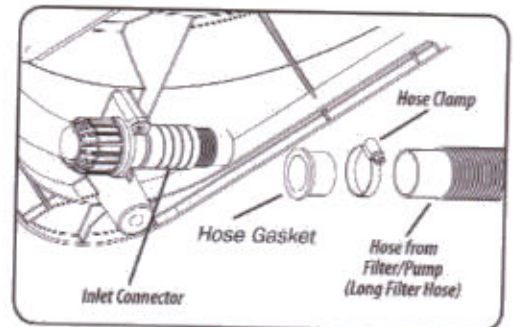

Figure 2
- D. Locate the inlet connector and the long filter hose. Attach the long hose between filter outlet (the port where the pool return hose was previously connected) and the inlet connector (located at corner of the Solar Pod Plus) using the included hose clamps (See Figure 2).
**NOTE: Insert the reducer inside of the long filter hose and attach using hose clamp. Apply a small amount of silicon based lubricant to the outside of the side connector to allow an easy fit (See Figure 2).**